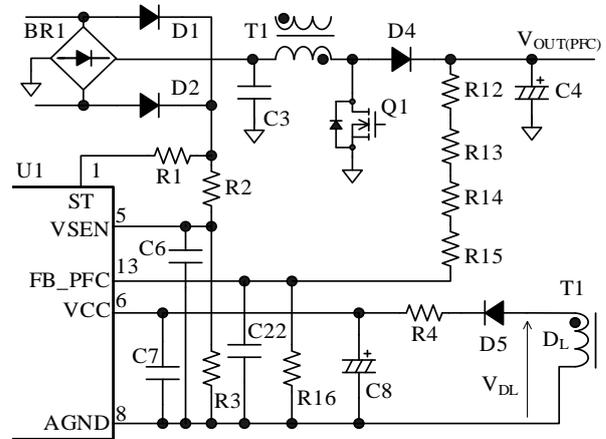
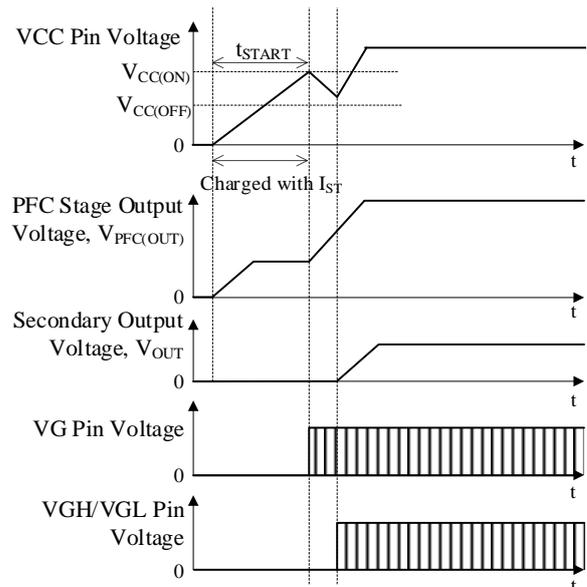

Figure 9-7. ST and VCC Pins and Their Peripheral Circuit
Figure 9-8. Operational Waveforms at Startup
Figure 9-7 shows the ST and VCC pins and their peripheral circuit. Figure 9-8 shows the operation waveforms during the startup.
After the LLC stage starts switching operation, a voltage to be applied on the VCC pin is the rectified auxiliary winding voltage,  $V_{DL}$ , as shown in Figure 9-7. After the power startup sequence ends, the startup circuit turns off automatically to eliminate the power dissipation by itself.
$t_{START}$  is a period of time until the PFC stage starts operating (see Figure 9-8), and is determined by the capacitance of C8. The approximate startup time,  $t_{START}$ , can be calculated by Equation (2) below: The capacitance of C8 must be set to  $\geq 47 \mu\text{F}$ .